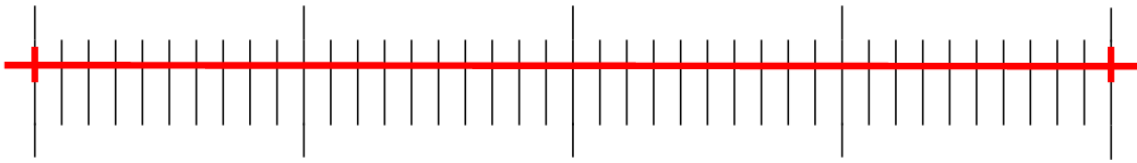

Figure 5-8
4.The minimum range of the selected micrometer is 0.01 mm (10 micron). Figure 5-8 shows the image under a tenx objective lens. At this time, the "magnification" is set to "10X", the "unit" is marked as " $\mu\text{m}$ ", and the "length" is set to "40".